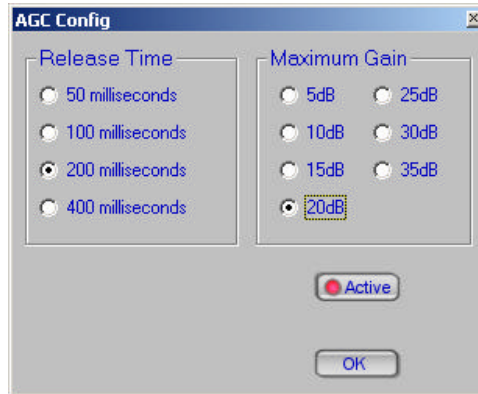

Figure 3-6 Tutorial AGC Setup Window
17. Click on the **AGC Setup** button in the Output Levels block. The following window (Figure 3-6) will appear:
Use the mouse to set the Release Time to 200 milliseconds and the Maximum Gain to 20dB, as shown in Figure 3-6. Click on **OK** when done.